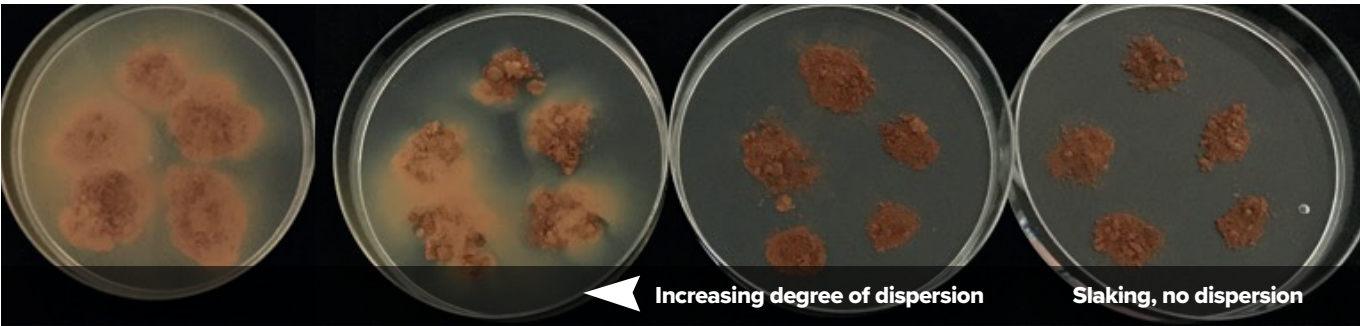

Figure 2. Dispersion due to soil sodicity. Note cloudiness will remain over time.
- Clay dispersing when wet (not to be confused with slaking – see Figure 2)